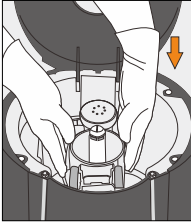

Figure 22
5. Align CrystalFlo™ Water Cartridge with openings in cooler, and push downwards into place (Figure 22). Ensure that foam seal is pushed down and seals the reservoir completely.